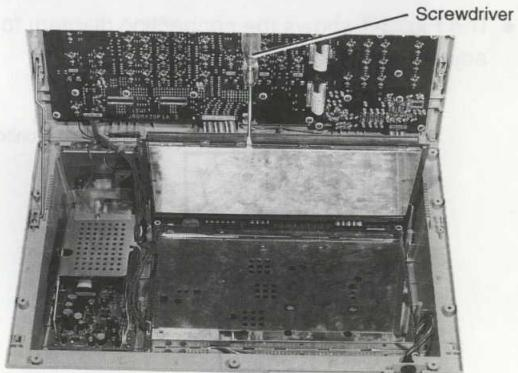

Fig. 2-4
- Referring to the Fig. 2-4, stand up the Analog Board and hook both sides of the Analog Board to the Mounting Angles of the Bottom Cover, and then remove the Shield Cover using screwdriver.